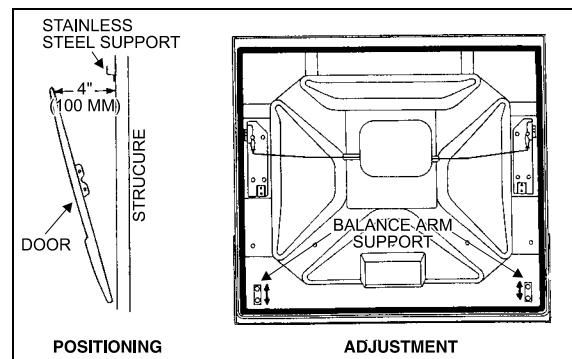

FIGURE 48: BAGGAGE COMPARTMENT DOOR 18065
2. Slightly open the door, position it to obtain a gap of 4" (100mm) between structure and door panel upper lip, maintain door in this position while an assistant completes tightening the two bolts retaining door to each balance arm support (Fig. 48).